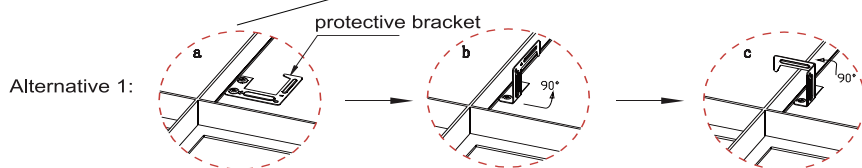

Figure 3
5. Grid clips are provided for additional retention to ceiling system. Orient (2) tabs for 2x2 or (4) tabs for 2x4 on back of the fixture over the grid by bending tabs up 90 degrees perpendicular to back of the fixture. Next bend tabs 90 degrees towards T-GRID frame (Fig.3)
3. Place the panel into the flange kit and connect the input lines. Then the installation is complete. (Fig 3)